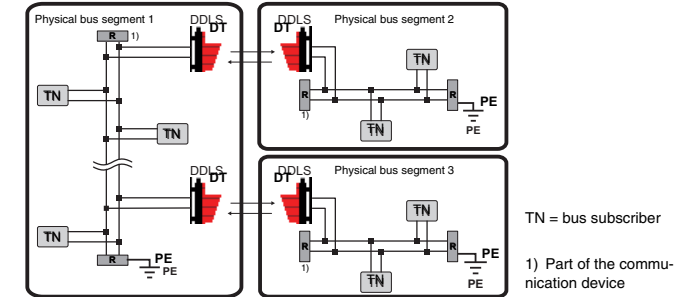

Figure 4.8: DeviceNet / CANopen wiring
- The ends of the bus lines must be terminated between CAN_L and CAN_H for each physical bus segment (see figure 4.8 R).
- The ground reference CAN_GND must only be connected to earth potential (PE) at one place on a physical bus segment (see figure 4.8).